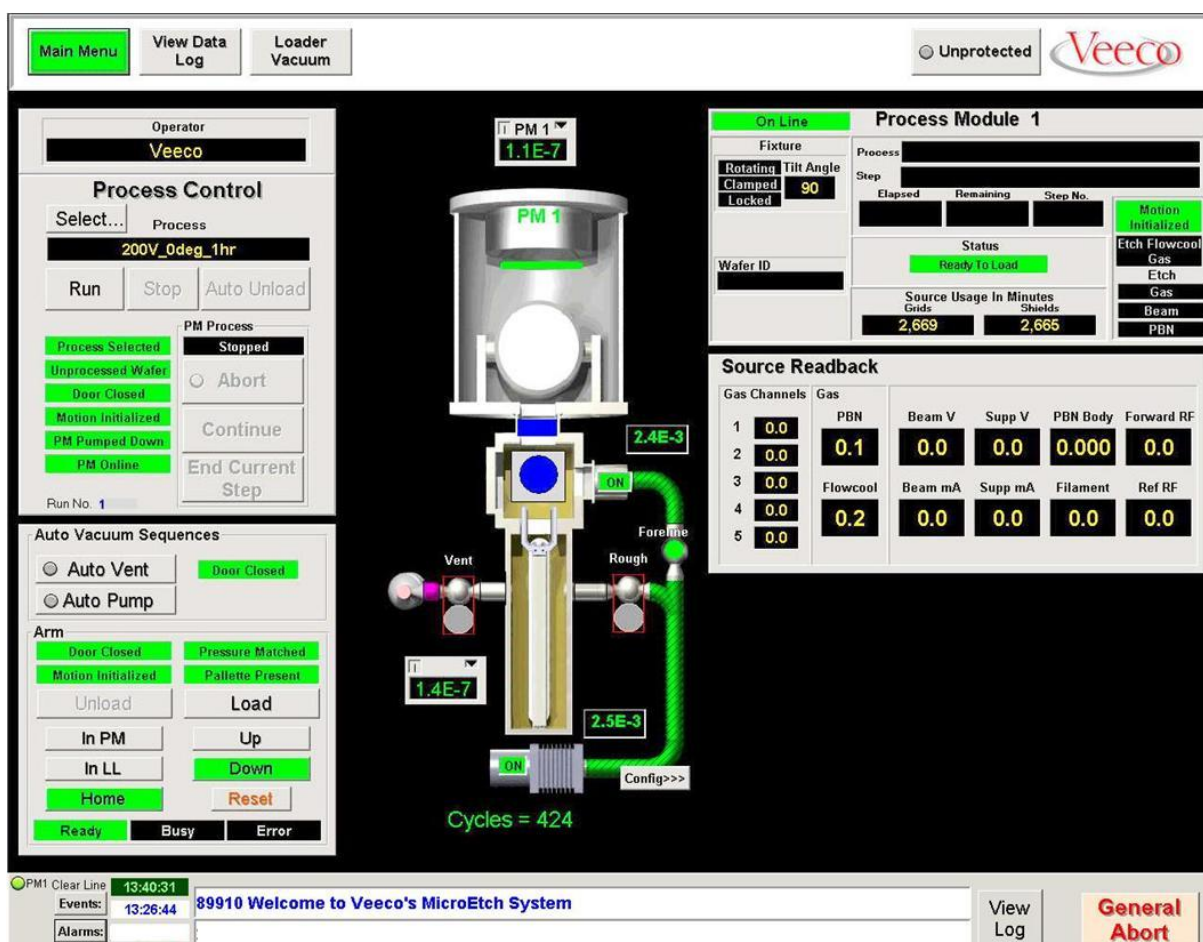

Fig.1: Control window with status bar (bottom)
The *Control window* (Fig.1) shows a planview of the system, together with four subfields to control the system. The planview informs the user about the wafer location, vacuum status of load-lock and process module (PM1) and status of robot arm and the beam shutter (the horizontal green line in PM1).
For different reasons, the **6th line, PM online**, can be coloured black. It can be changed into green by pressing the only button present in the *Process Module 1* part of the *Control window* (Fig.1). The button in the top-left corner switches between **Off line** and **On Line**, the latter being the right one. Although important the button has no additional functionality.
- (*) source ramping is a software controlled procedure, resulting in a beam with the desired acceleration voltage (*Beam V*) and current (*Beam mA*), both shown in the **Source Readback** part of the *Control window, Fig.1*.
3.3.2 *Elapsed and remaining* process time can be found in the **Process Module 1** part of the *Control window (Fig.1)*. Without any user action, wafer processing will proceed until the remaining process time has expired. Then, the wafer will be returned automatically to the load-lock and brought back to atmospheric pressure. However, there are two alternative options: